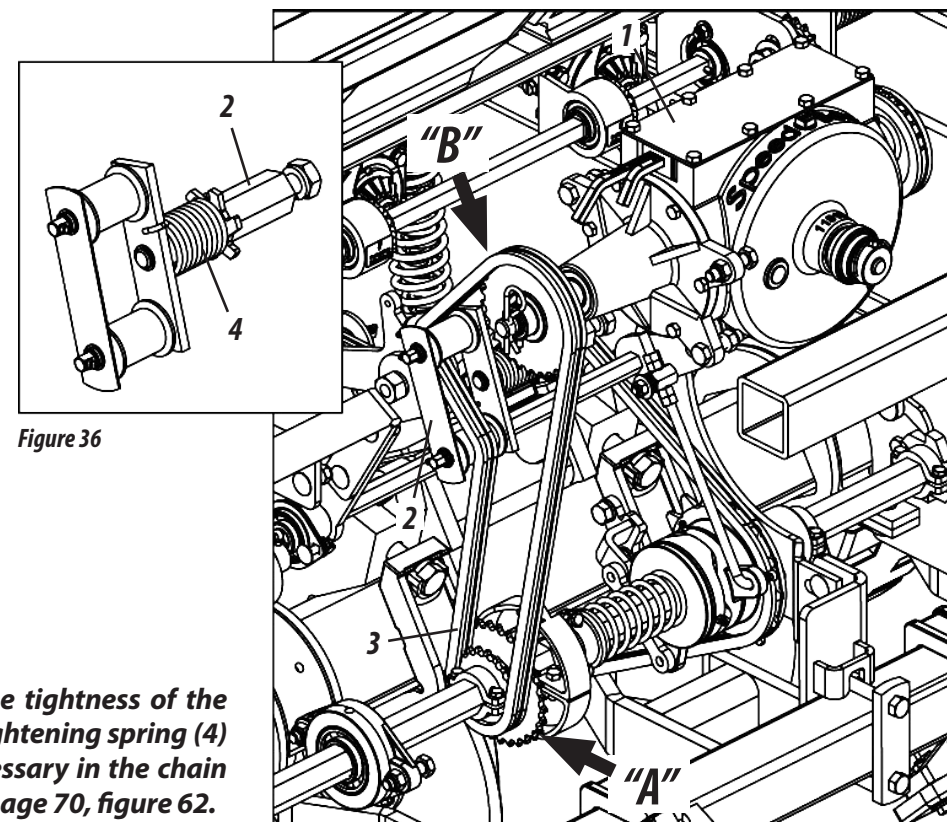

Figure 36
The adjustment of seeds is done by using the Speed Box (1). In order to obtain more adjustment, Invert the chain from drive **"A"** gear to driven **"B"** gear **as shown in figure 36.** To invert the chain proceed as follows:
- 1- First turn the chain stretcher (2), relieving the tightness from the chain (3).
- 2- After invert the chain (3) as needed for the working conditions.
- 3- Following that, release the chain stretcher (2) let it go back, and then the chain is tightened again (3).